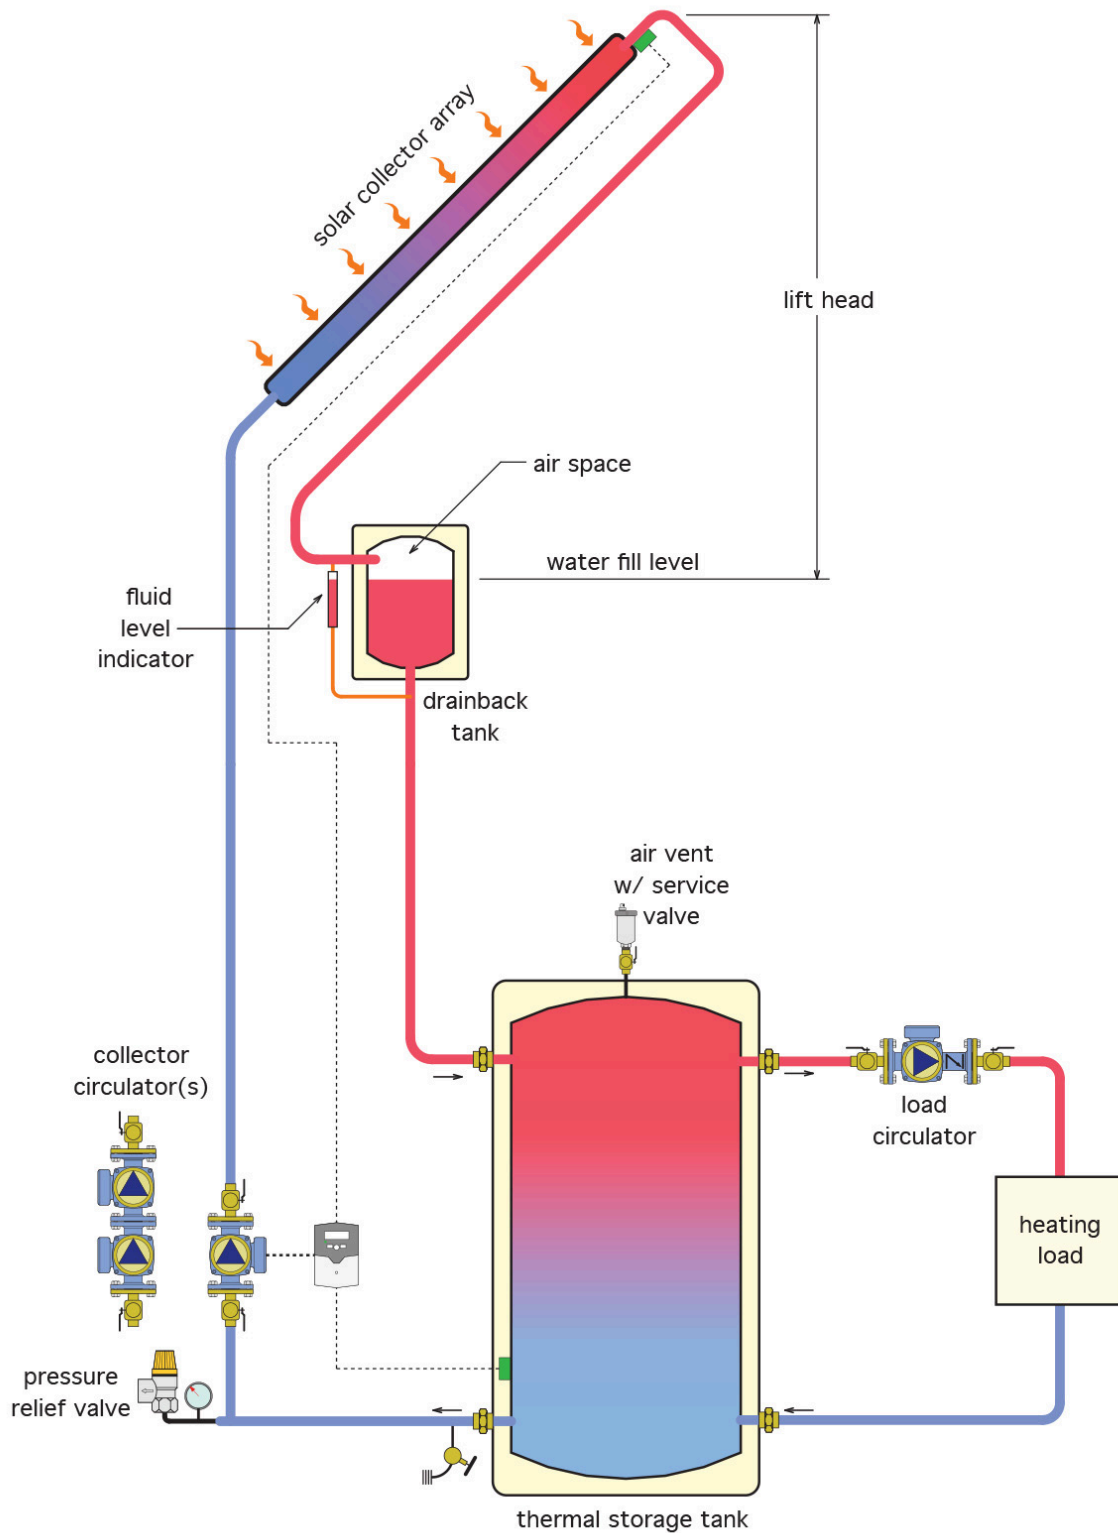

Figure 4 Closed-loop drainback system
- Figure 4 Evacuated tube collector in position © Caleffi Hydronic Solutions. Used with permission.